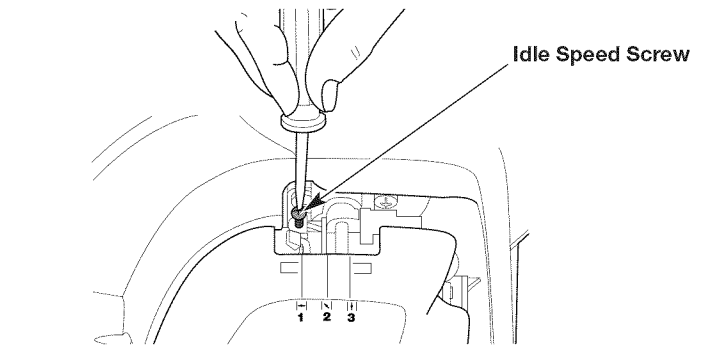

Fig. 23
2. Release the throttle control and let the engine idle. If the engine stops, use a small Phillips screwdriver to turn the idle speed screw clockwise, 1/8 of a turn at a time (as needed) until the engine idles smoothly (Fig. 23).
3. If the engine is idling too quickly, turn the idle speed screw counterclockwise, 1/8 of a turn at a time (as needed) to reduce the idle speed (Fig. 23).